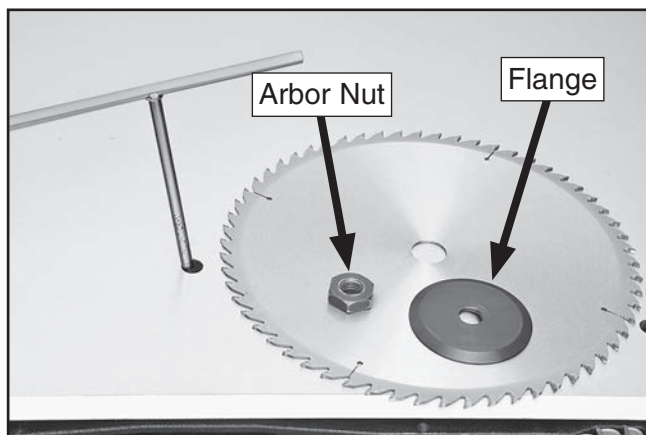

Figure 84. Main blade arbor nut and flange.
- While holding T-handle wrench with one hand, rotate arbor nut clockwise until you can remove nut, flange, and blade (see **Figure 84**).